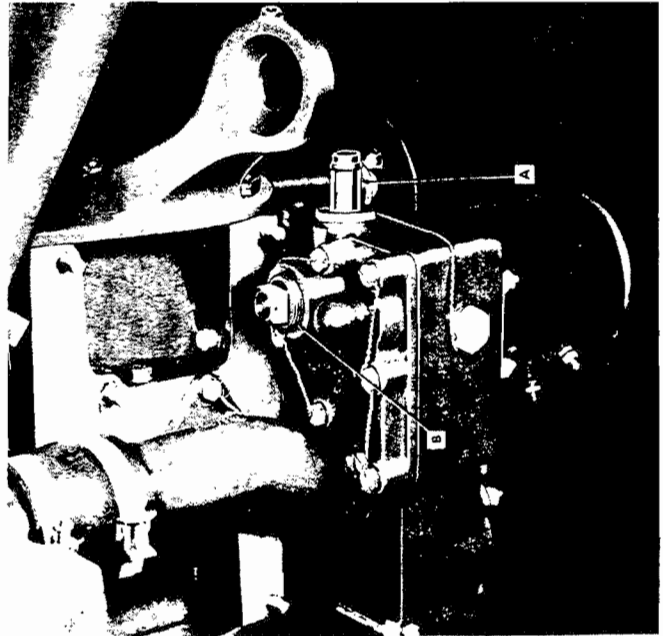

FIGURE 14. DRY SUMP ENGINE OIL HOSE CONNECTIONS.
- a. Oil supply and return lines (See Figures 14, 41 and 42).